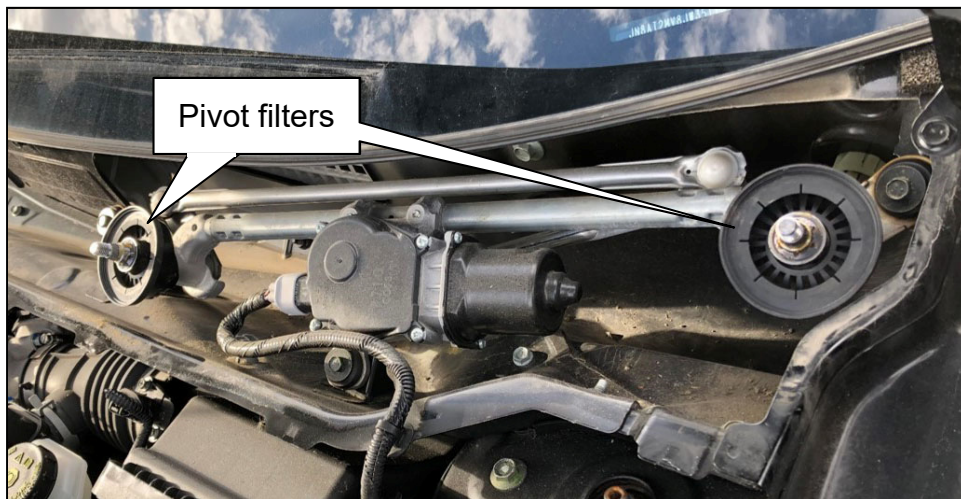

Figure 1
3. If not already equipped: Install a wiper pivot filter on each wiper pivot (see Figure 1).